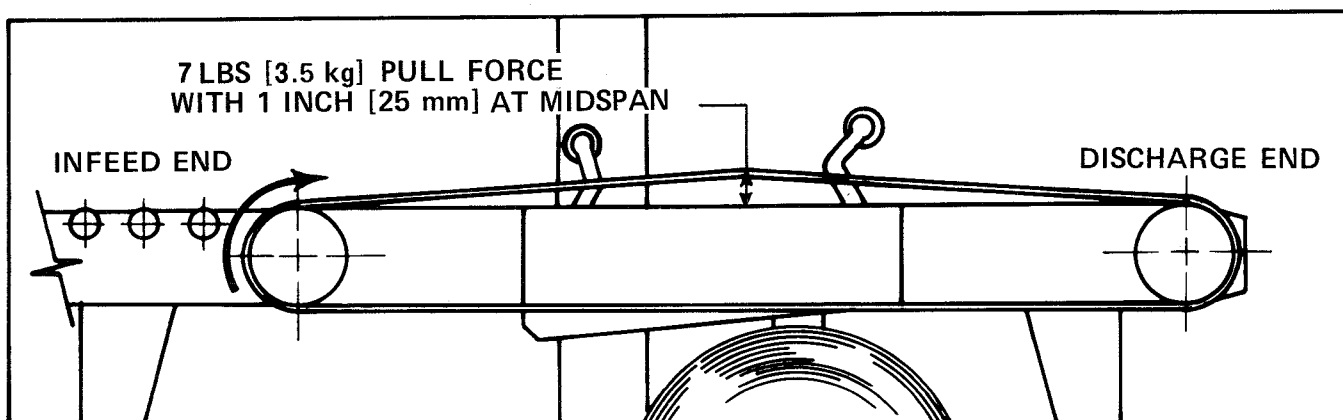

FIGURE 14 - BOX DRIVE BELT TENSION ADJUSTMENT
Step 1 - Tension is obtained by uniform tightening of the adjustment screws so that a moderate pulling force of 7 lbs. [3.5 kg] applied at the midspan will deflect the belt 1 inch [25 mm]. Refer to figure 14.
**BLADE REPLACEMENT:** Refer to yellow pages, Parts Illustrations, figure 14.
- 2) Position the new blade with the beveled side AWAY FROM the blade holder as shown in Figure 14. Tighten the blade screws (with one washer next to the screw head as shown).